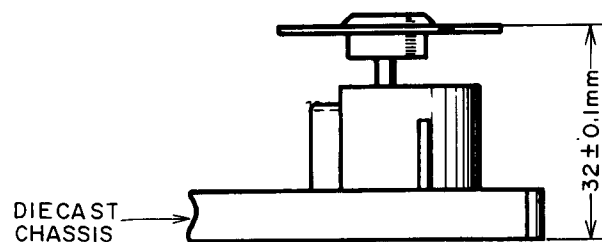

Fig. 5-2
- 6) Put the TURN TABLE on to the SPINDLE MOTOR shaft and adjust so that the height of the TURN TABLE from the diecast chassis becomes 32 ± 0.1 mm as shown in Fig 5-2.